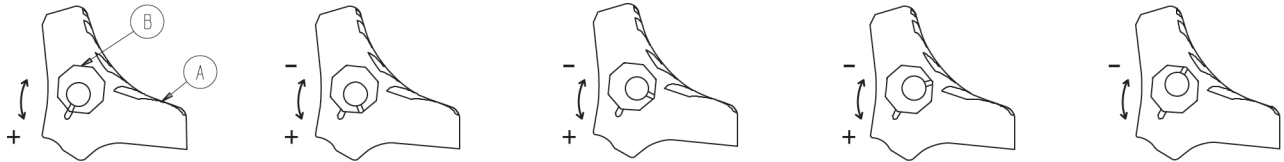

Figure 10 – Wheel locking force adjustment
1. Using a 5/32" hex wrench and 7/16" combination wrench or socket, remove the socket screw from the center of the lock pedal. Save the screw. The wheel lock is initially assembled with the pedal set at the minimum locking force. The marker on the pedal (A) is aligned with the marker on the octagonal sleeve (B) (Figure 10).
2. Remove the octagonal sleeve (B). Rotate the octagonal sleeve counterclockwise to increase the pedal locking force and clockwise to decrease the locking force. Insert the octagonal sleeve into the pedal.